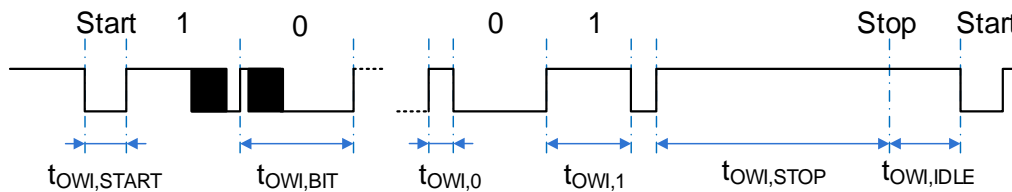
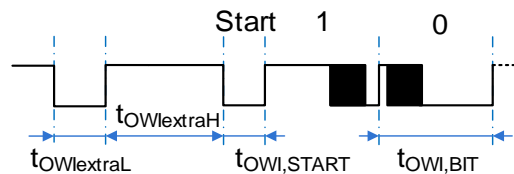

Figure 14. OWI Timing Diagram
Figure 15. OWI Extra (Activation) Pulse for Concurrent OWI and Analog Output Configuration
- **Valid Data:** Data is transmitted in bytes (8 bits) starting with the most significant bit (MSB). Transmitted bits are recognized after a start condition at every transition from low to high at the OWI line. The value of the transmitted bit depends on the duty ratio between the high phase and high/low period (bit period, $t_{OWI,BIT}$ in Figure 14). A duty ratio greater than $1/8$ and less than $3/8$ is detected as 0; a duty ratio greater than $5/8$ and less than $7/8$ is detected as 1. The bit period of consecutive bits must not increase to more than 1.5 times the previous bit period or decrease to less than half of the previous bit period because a stop condition is detected in this case.
OWI protocol timing and parameters are specified in Figure 14, Figure 15, and Table 23.
- **Continuous OWI and Analog Output:** The configuration *owi_off* = 0, *cont_ANAoutn* = 0, and *owi_su_case* = 1 results in AOUT providing analog output levels as soon as they are available after power-up (in Cyclic Mode). Concurrently, the OWI listens to the AOUT¹ pin in order to check for valid OWI commands. The OWI still needs to be enabled by means of the *Startup OWI* command. The physical protocol in this configuration requires an extra pulse (see Figure 15) prior the *Startup OWI* command. After the release of the extra OWI initialization pulse, the analog output is switched off² and AOUT becomes the OWI I/O pin until the OWI startup window (according to *owi_su_length*) has elapsed. The OWI-master implements *Dynamic Driving* to avoid dynamic currents (due to DAC-output level changes) causing unwanted pull-up signal generation (via *ROWI,PULL*). When *Dynamic Driving Approach* is not applied in this configuration, set the constantly connected OWI-master pull-up resistances (*ROWI,PULL*) to ≥5.5kΩ to prevent erroneous OWI-start detections that can be triggered by changing DAC-output levels. Limit the interface speed to slower values with the proper setting, such as longer bit period.